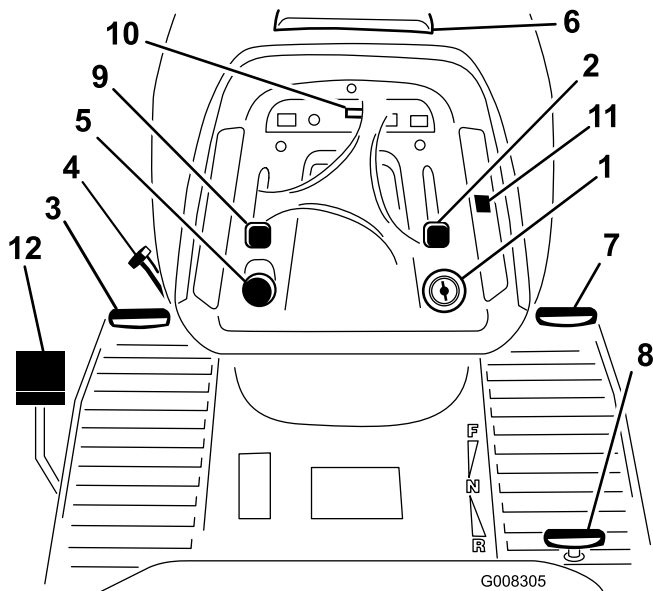

Figure 4
Become familiar with the controls (Figure 4) before you start the engine and operate the machine.
1. Push the brake pedal (Figure 4) down and hold it.
2. Turn the parking brake lever (Figure 4) counterclockwise and gradually take your foot off the brake pedal.
1. Push down on the brake pedal (Figure 4).
2. Push the cruise control switch On (Figure 4).
The hour meter is located on the instrument panel (Figure 4) and shows the total operating hours of the machine.